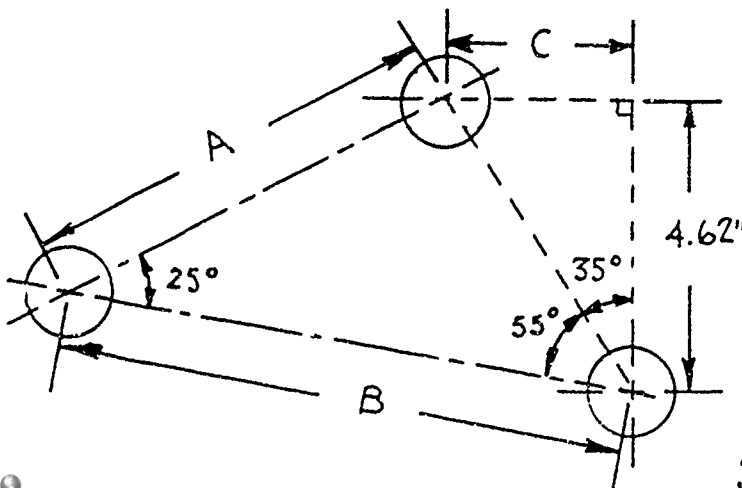

Figure 11: Find A, B, and C.
5. You have been given the hole pattern shown in Figure 11 to lay out. To do this, you must find the missing dimensions A, B, and C.